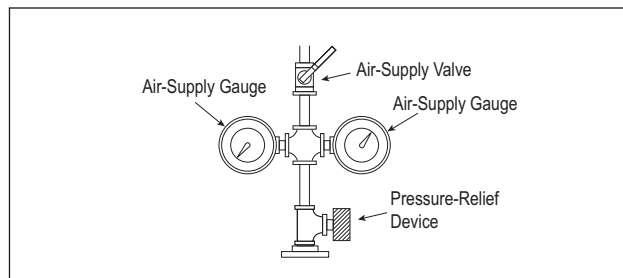

FIGURE 3-1
3.1.3. Construct a test manifold with two air-supply gauges as shown in FIGURE 3-1. Each air-supply gauge must have a maximum full-scale reading of 15 psig with 1/4-lb. or 1/10-lb. increments, and a pressure-relief device set at 6 psig [4 psig for 12-foot-diameter tanks].